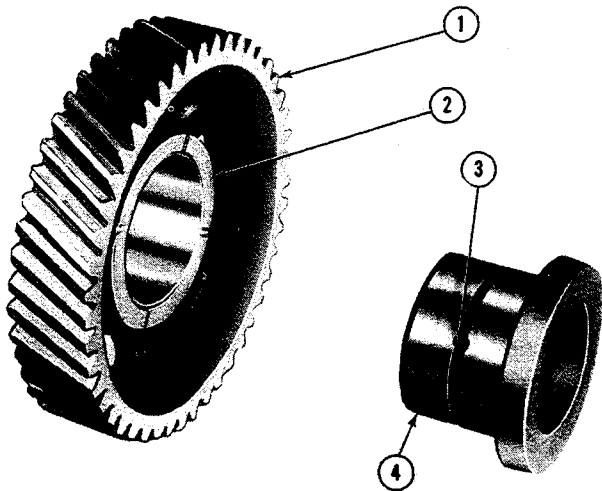

Figure 33
3. Check the adapter oil passage, Figure 33, to be sure that it is clear.
4. Inspect the camshaft drive gear bushing, Figure 33, for wear, nicks or burns, and install a new gear if any of these conditions exist.